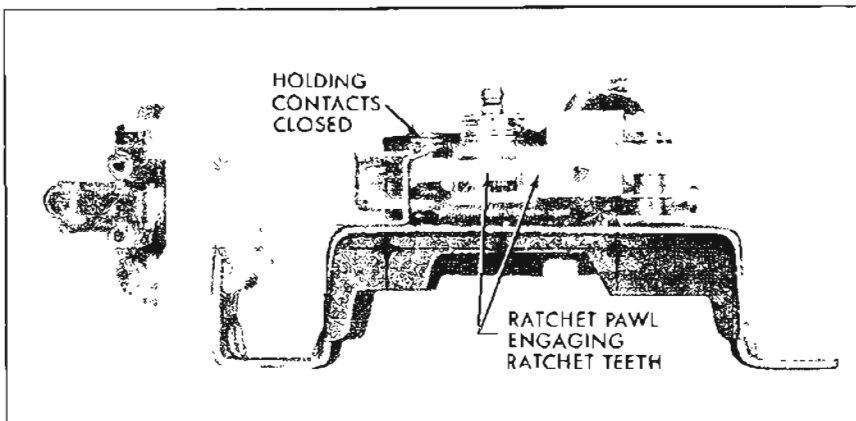

Figure 10-93—Ratchet Pawl Engaging Ratchet Wheel
With the washer relay coil energized, the ratchet pawl, which is normally held away from the ratchet wheel by a spring, is pulled toward the coil pole and engages the ratchet wheel teeth. The ratchet pawl and plate assembly, which moves back and forth continuously when the wiper is on, now starts to rotate the ratchet wheel (Figure 10-93).
2. If relay and ratchet pawl perform correctly in Step 1, manually rotate the 3 lobe cam 1 lobe in a clockwise direction (looking at the cam). Observe if relay holding contacts close (Figure 10-93) and the pump plunger arm is released from its lock-out position.